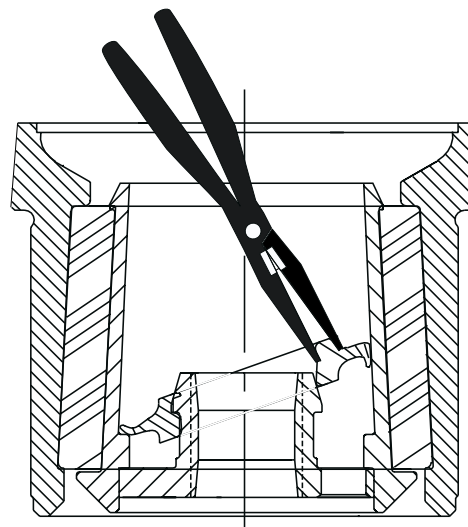

Figure 8-25. Removing the Valve Seal from the End Cap
1. Use a sharp knife or hack saw to cut through the Valve Seal (13). Using a large screw driver or needlenose pliers, pry the Valve Seal from the End Cap. Discard the Seal. See Figure 8-25.